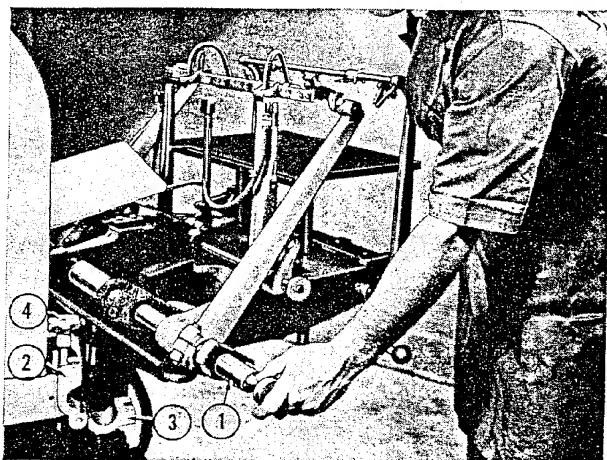

Figure 17—Locking Feeder
(7) HOW TO LOCK FEEDER. (See figure 17.) —To lock feeder, swing feeder until feeder shaft (1) is engaged in fixed half of feeder shaft bracket (2). Swing hinged half of bracket (3) in place and securely tighten bracket lock wheel (4).